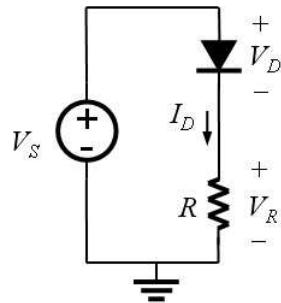

Figure 5: Circuit for diode i - v measurements.
- (A) Construct the circuit shown in Fig. 5. You have at your disposal your DC power supply, and a variable resistance R (we recommend you use values of $100\text{k}\Omega$, $27\text{k}\Omega$, $8.2\text{k}\Omega$, $4.7\text{k}\Omega$, $2.2\text{k}\Omega$, and 820Ω — this is more straightforward than using a pot and measuring its value every time you turn the knob).
- (B) Given this circuit, come up with a scheme to measure the diode’s i - v curve. Think about these questions to help guide you:
- For a given setting of V_s and R in Figure 5, how can you calculate the current and voltage through the diode by making a single measurement?